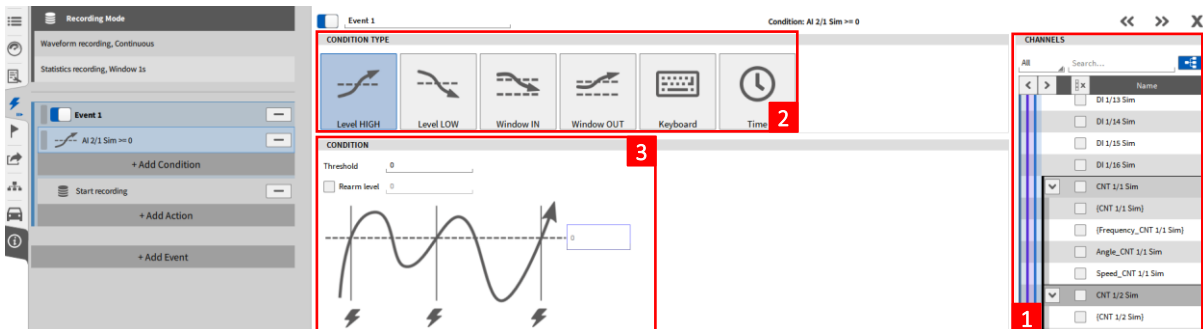
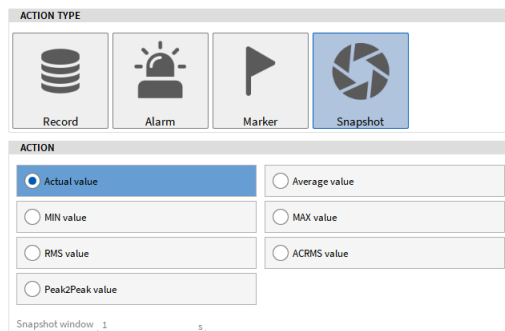
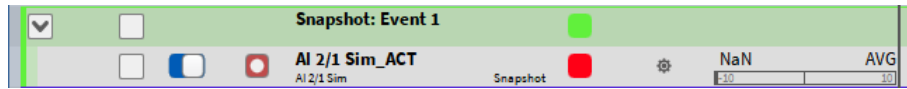

Figure 7-3: Define an Event Condition and Trigger on *Level HIGH*
Figure 7-15: Trigger - Snapshot Action
Figure 7-16: Snapshot channel in the Channel List
The channel to be triggered on can be selected from the channel list on the right screen side (see ① in Figure 7-3). The user can select between five different event conditions (see ② in Figure 7-3):
- Level HIGH: Activate Event if selected signal exceeds defined Threshold. A *Rearm* Level that must be passed before the trigger is activated again can optionally be defined (see ③ in Figure 7-3).
The Snapshot action can be used to query the Actual Value, Average, MIN, MAX, RMS, ACRMS or Peak2Peak value of one or several channels that may be selected on the right-hand side of the menu (see ① Figure 7-3) and copy this value to a new channel. This channel is added to the Channel List and can be found in the *Snapshot: Event x* section (see Figure 7-16). If a statistical value is selected, the calculation time interval can be defined in the *Snapshot window* input field (see Figure 7-15). The time interval is applied prior to the activation of the event.